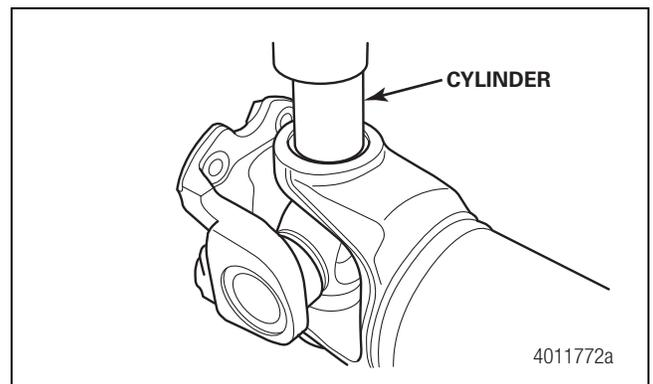

Figure 4.77
- Install the cylinder and press down to create clearance for snap ring installation. Figure 4.77.